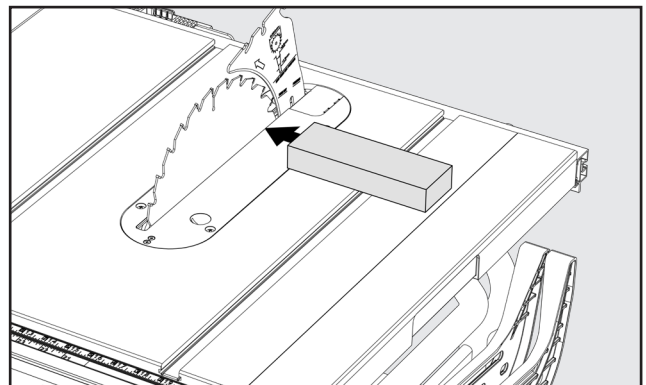

Figure 36
5. If the rear of the blade was too close to combination square, place a block of wood on the right side of the blade. Lightly tap with a small hammer or rubber mallet to achieve the correct parallelism adjustment. See Figure 36.